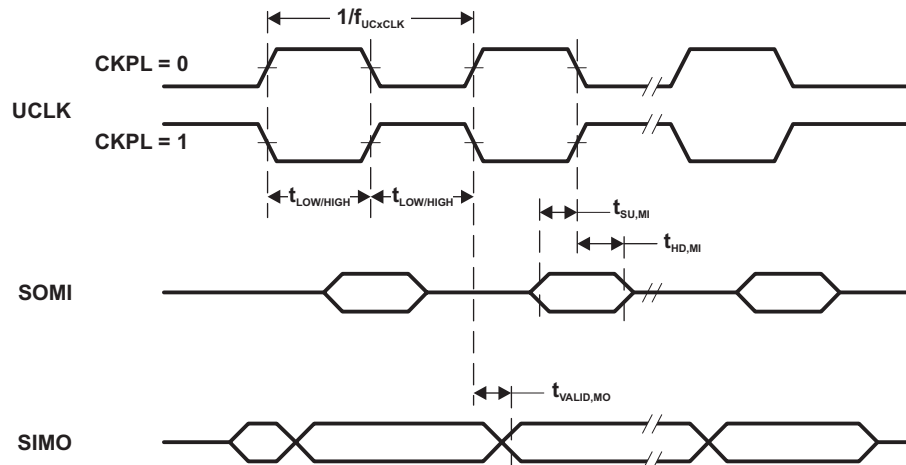
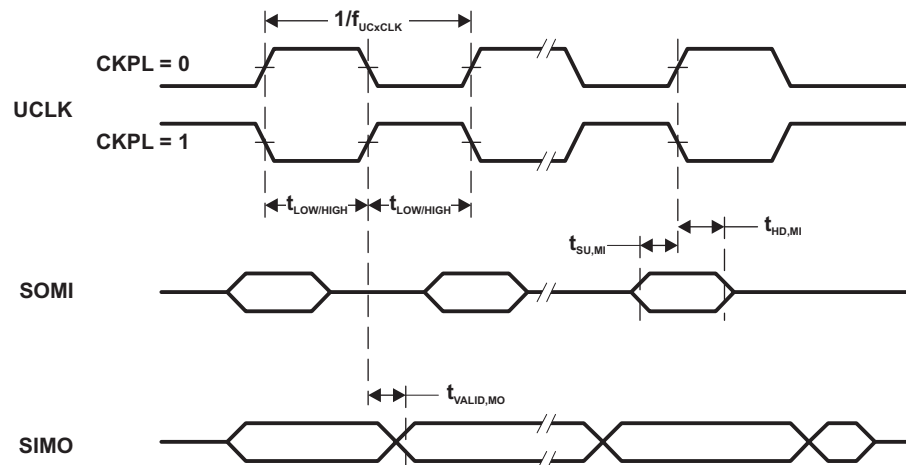

Figure 5-9. SPI Master Mode, CKPH = 0
Figure 5-10. SPI Master Mode, CKPH = 1
- (2) Specifies the time to drive the next valid data to the SIMO output after the output changing UCLK clock edge. Refer to the timing diagrams in Figure 5-9 and Figure 5-10.
- (3) Specifies how long data on the SIMO output is valid after the output changing UCLK clock edge. Negative values indicate that the data on the SIMO output can become invalid before the output changing clock edge observed on UCLK. Refer to the timing diagrams in Figure 5-9 and Figure 5-10.